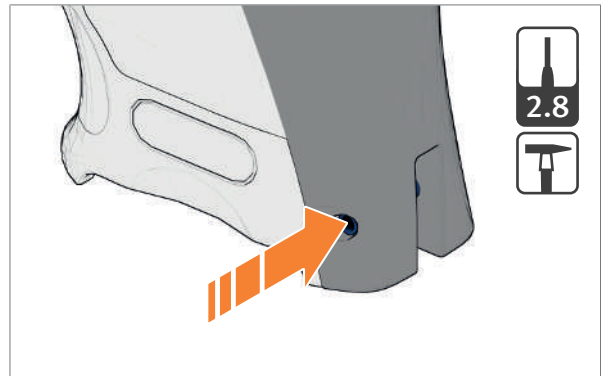

Fig. 28: Driving out clamping sleeve for back strap
1. Driving out clamping sleeve for back strap (Fig. 28).